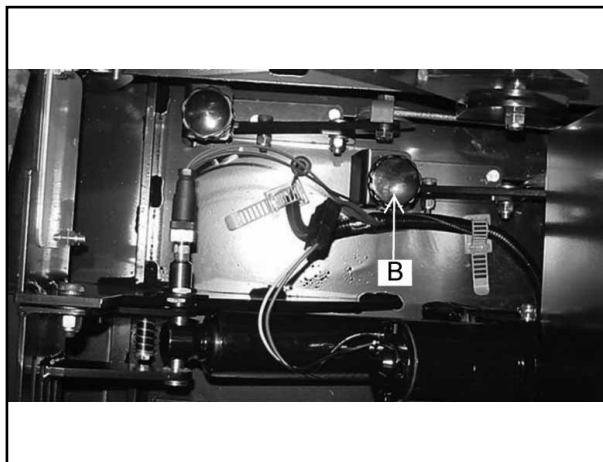

FIGURE 27
The main broom adjustment knob (B) for changing the sweep height to compensate for broom wear, is located in front of the machine to the right of the dust control filter as shown in figure 27. Turning the knob to the left (counterclockwise) will lower the main broom.